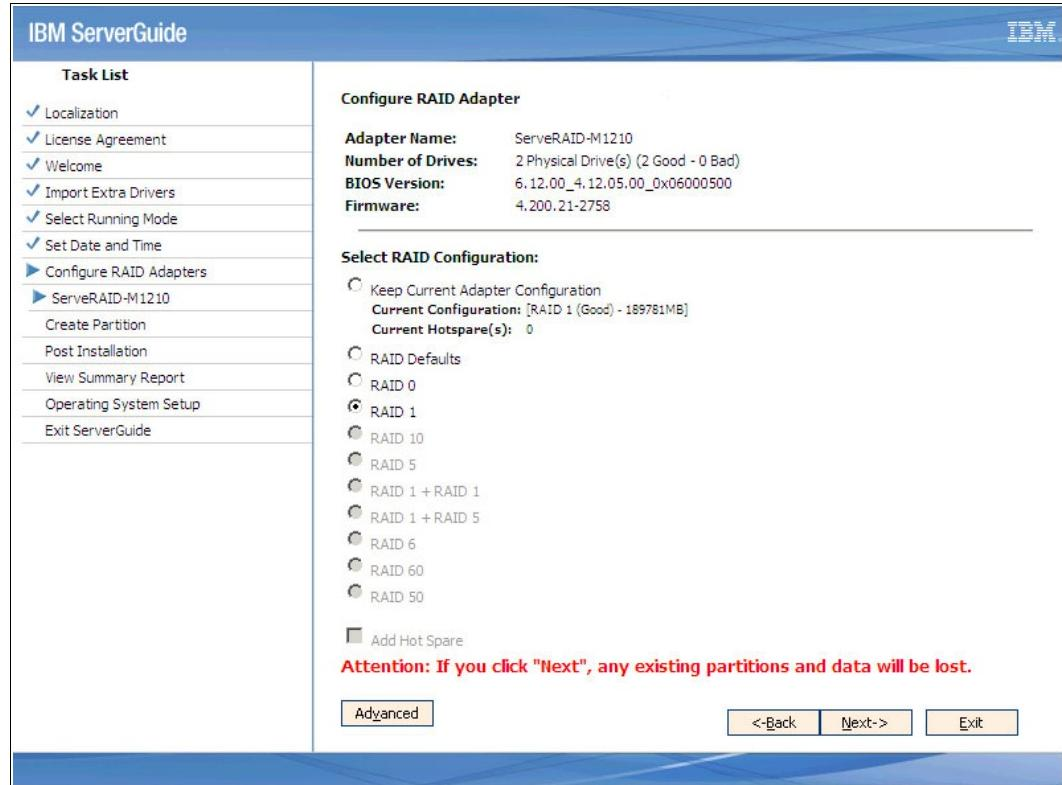

Figure 6-33 RAID selection
11.Create a RAID configuration. Select a RAID configuration and click **Next**, as shown in Figure 6-33.